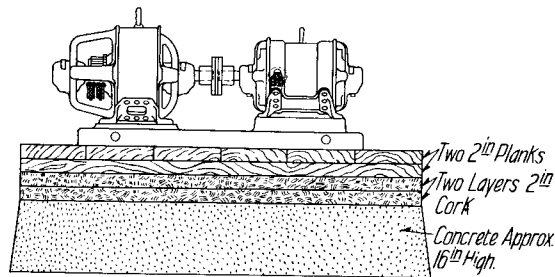

Fig. 1—Sketch Showing Foundation for Motor-Generator.
4. Such a base as shown in (Fig. 1), may be constructed readily with solid planking two inches thick and layers of solid cork each layer two inches thick. The supporting foundation should preferably be made of hollow concrete. The cork should be placed in two layers on the concrete foundation. On top of the cork should be placed the plank frame constructed of the two layers of two-inch plank. The planks of one layer should be laid at right angles with the plank in the other, both layers to be bolted or nailed together securely. The motor generator may then be mounted on the plank frame and, if desirable, the bedplate may be bolted down to the plank frame as holes are provided for this purpose. If so desired, heavy felt may be substituted for the cork but cork is much more resilient and will remain elastic indefinitely, whereas felt will not.